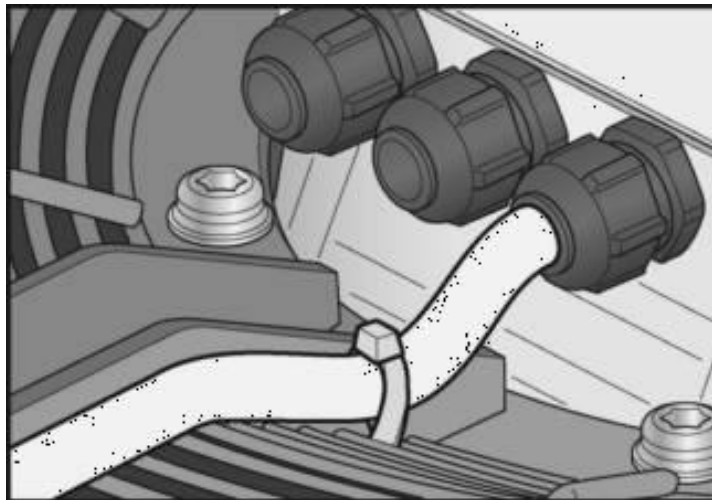

Figure 32. Fan and Motor Assembly Cable Routing
13. Using zip cable ties secure cables to the fan and motor support channels. Ensure the cable is routed in a U-shape as shown in **Figure 32**.